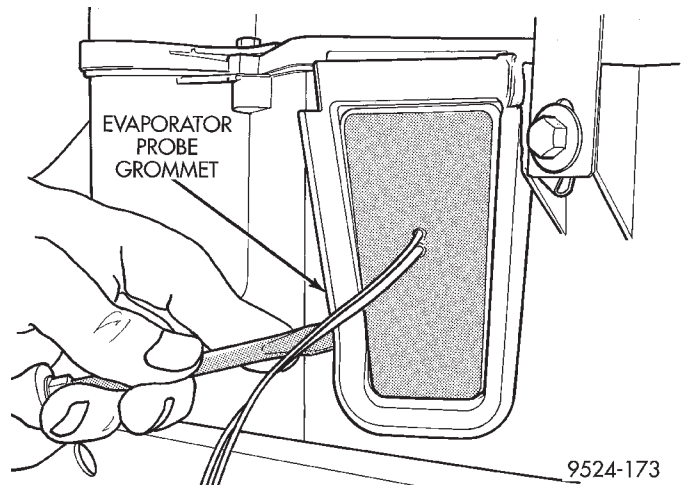

Fig. 25 Evaporator Probe Grommet
(3) Using a flat blade pry tool, pry the evaporator probe grommet from the HVAC housing (Fig. 25).